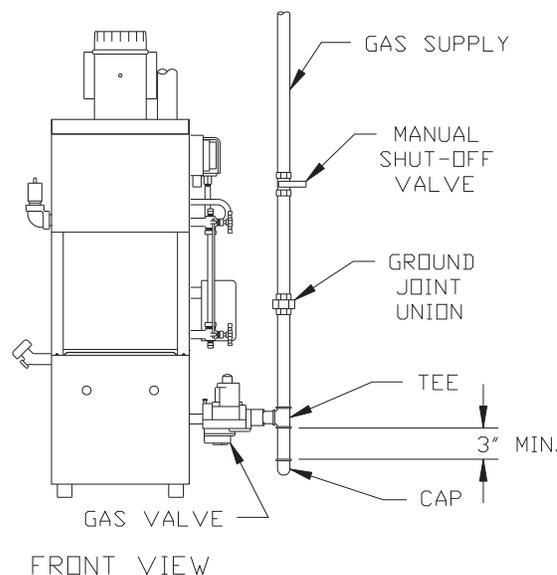

Figure 10-1: Gas Connection to Boiler
- C. Install sediment trap, ground-joint union and manual shut-off valve upstream of boiler gas control valve. See Figure 10-1.